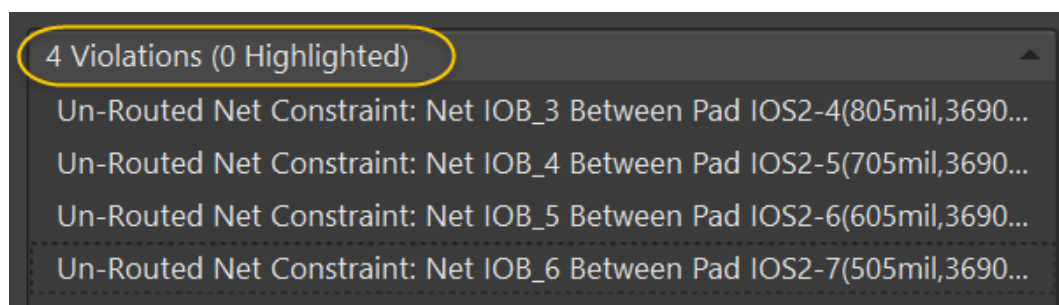

Figure 13. Un-Routed Net violations
27. Four (4) violations will be listed at the bottom of the *PCB Rules and Violations* panel in the *Violations* section as shown in Figure 13.